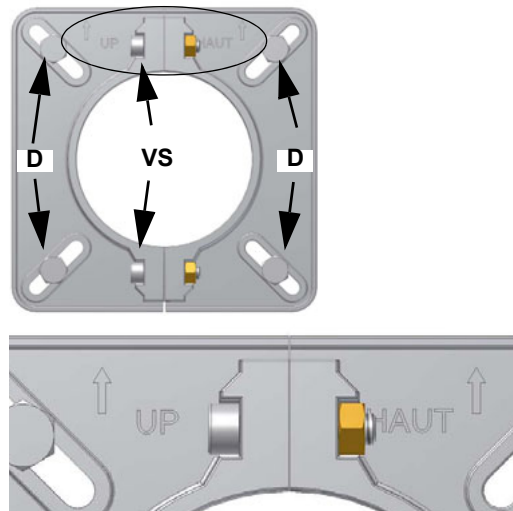

Fig. 5
- 4 according to the reference showed on Fig. 5, fix the flange to the boiler's stud bolts **D**, without completely fastening;